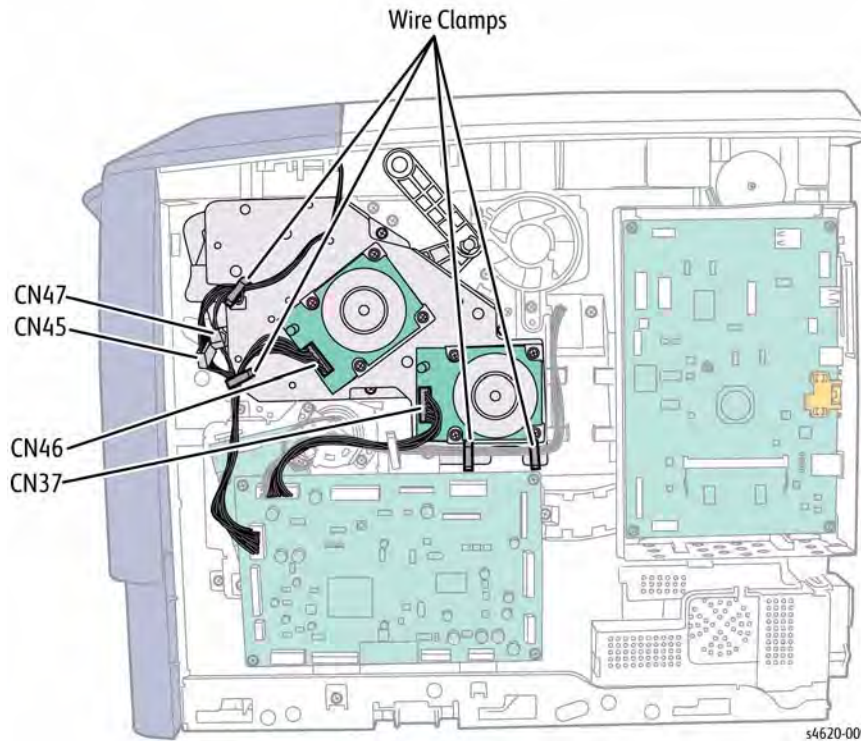

Figure 1 Disconnect the Main Drive Assembly
5. Disconnect 4 connections from the Main Drive Assembly, Figure 1.
6. Release the harnesses from 4 harness clamps, Figure 1.